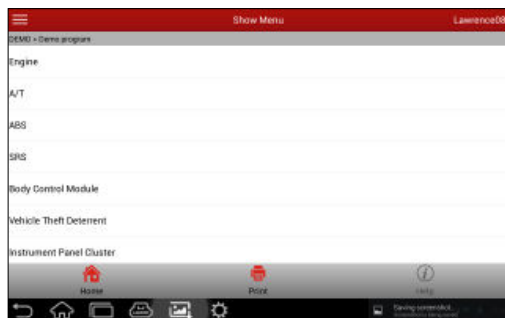

Fig. 5-15
- 4 Tap "Demo" to enter system selection interface. See Fig. 5-15.